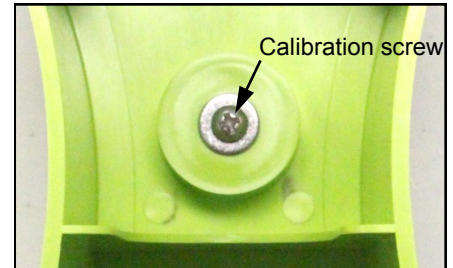

Figure 5
- B. Adjust calibration screw until full flow is achieved. **See Figure 5**